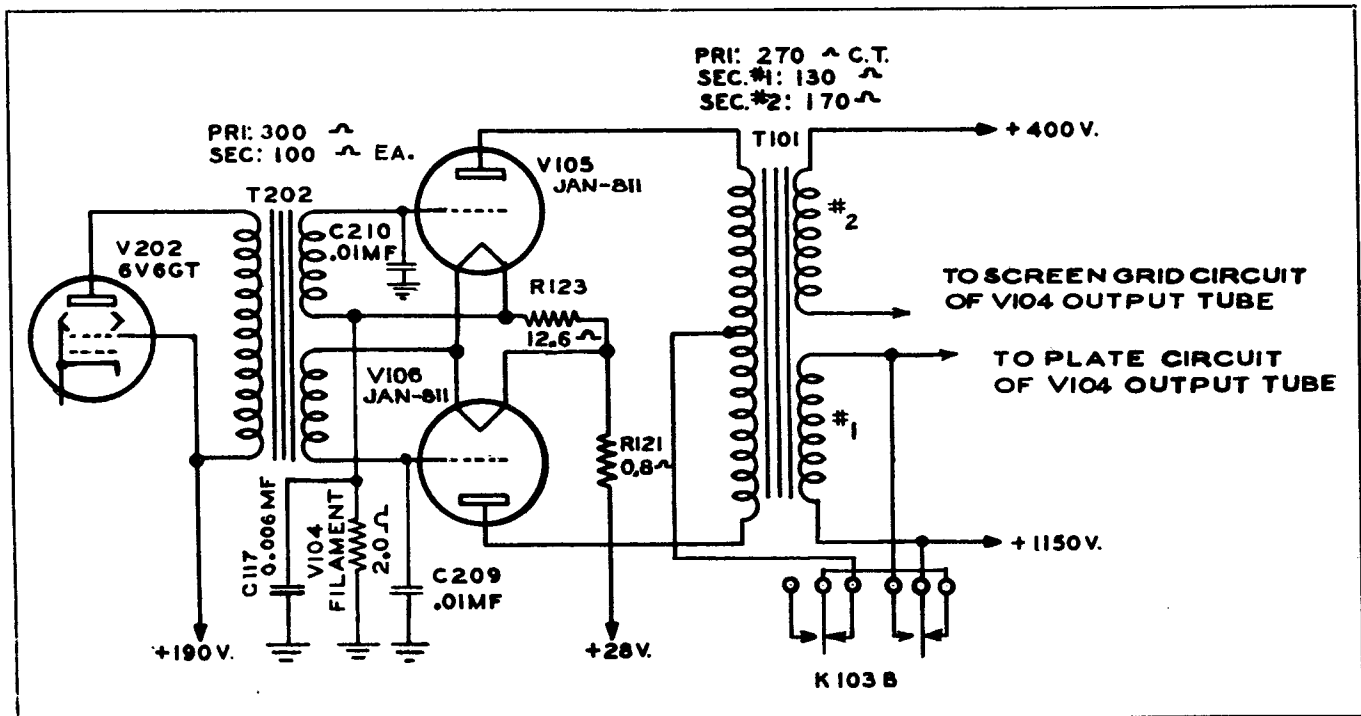

Figure 4-7. Modulator Circuit
(2) MODULATOR.—The modulator employs two Type JAN-811 high mu triodes connected in push-pull, and operating Class B. The modulators are capable of modulating the carrier (100 watts nominal) at least 90% with full voltage applied to the power amplifier. While the JAN-811 is essentially a zero bias tube when used with plate voltages as high as 1150 volts d-c, it becomes necessary to apply some bias to the grid of the tube to keep the static plate current as low as practicable. In this application the bias is obtained from the 28-volt d-c supply by utilizing the average voltage drop through the filaments of the tubes to obtain equal voltage for application to the grids of both modulator tubes. The output of the modulators is coupled to the r-f circuit by modulation transformer T101 (see fig. 4-7). Both the screen and plate of the final amplifier tube, V104, are modulated. The full output voltage of the dynamotor 1150 volts d-c, is applied to the plates of the modulator tubes, V105 and V106. "CW" relay contacts K103B remove plate voltage from the modulators when "CW" emission is selected.
(3) SIDETONE AMPLIFIER.—A sidetone amplifier is incorporated in the same unit as the two stage speech amplifier.